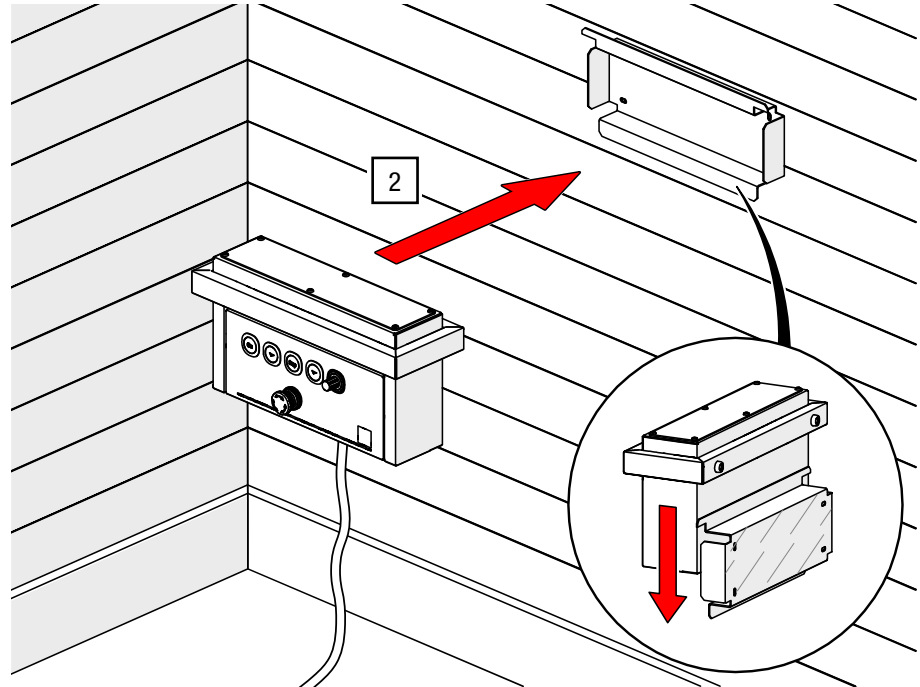

Fig. 27: Mounting the secondary control panel on the wall
2. Suspend the secondary control panel onto the mounting plate from above. Ensure a tight fit (see Fig. 27).